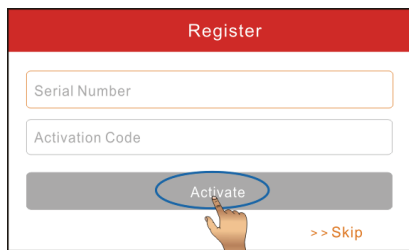

Fig. 4-4
B. Activate the VCI connector: In Fig. 4-4, input the Serial Number and Activation Code, which can be found in the password envelope.